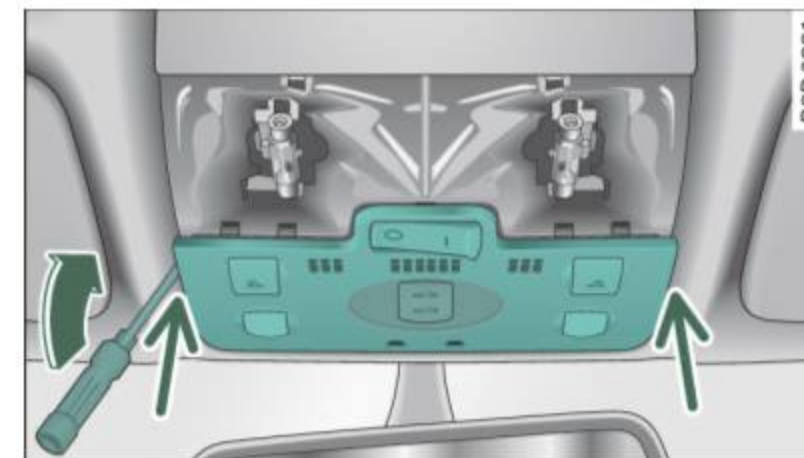

Fig. 61 Light unit in the headliner: removing the switch cover
- Push the flat blade of the screwdriver several times in succession between the light unit and the switch cover at different places on the left and right and carefully lift the switch cover as you do this ⇒ *page 74*, fig. 61. On vehicles with additional equipment you can allow the cover to hang by the wire, otherwise place the loose cover to one side.